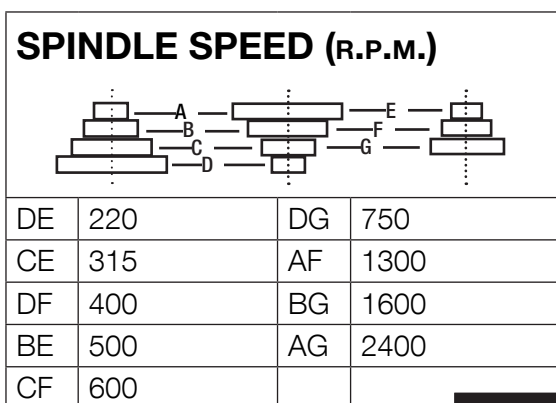

FIG. 5.15
6. Check the Spindle Speed Chart and arrange the V-belts to set the vertical spindle speed (Fig.5.15)